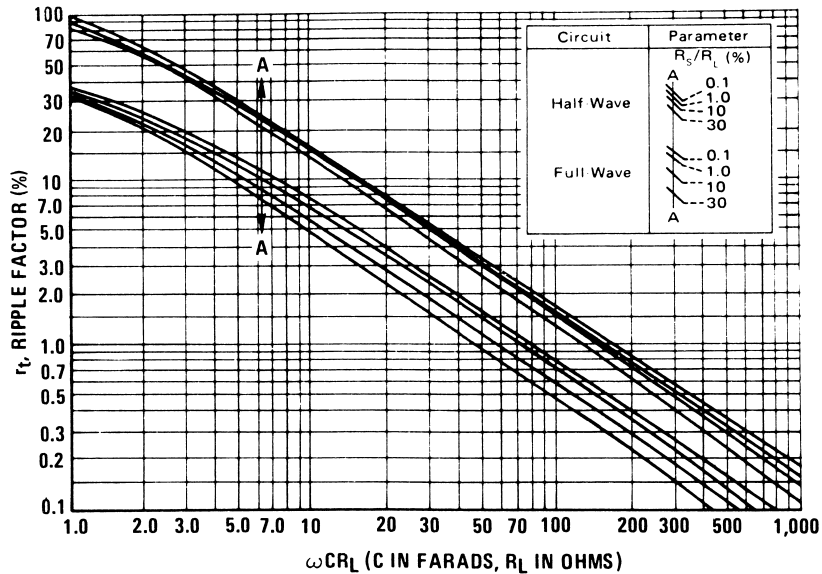

FIGURE 8.6. Root-Mean-Square Ripple Voltage for Capacitor-Input Circuits. (From O. H. Schade, Proc. IRE, vol. 31, p. 356, 1943.)
- d) Determine ripple factor r_f from Figure 8.6. Make certain that the ripple voltage does not drop instantaneous V_{IN} below $V_{IN(MIN)}$.
- d) Ripple factor is 15% from Figure 8.6. Ripple is then